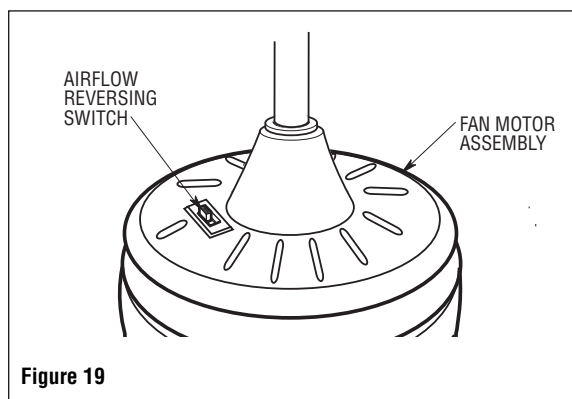

Figure 19
7. If airflow is desired in the opposite direction, turn the fan off and wait for the blades to stop turning. Then slide the reversing switch, located on top of the fan motor assembly, to the opposite position (Figure 19) and turn the fan on again. The blades will turn in the opposite direction and reverse the airflow.